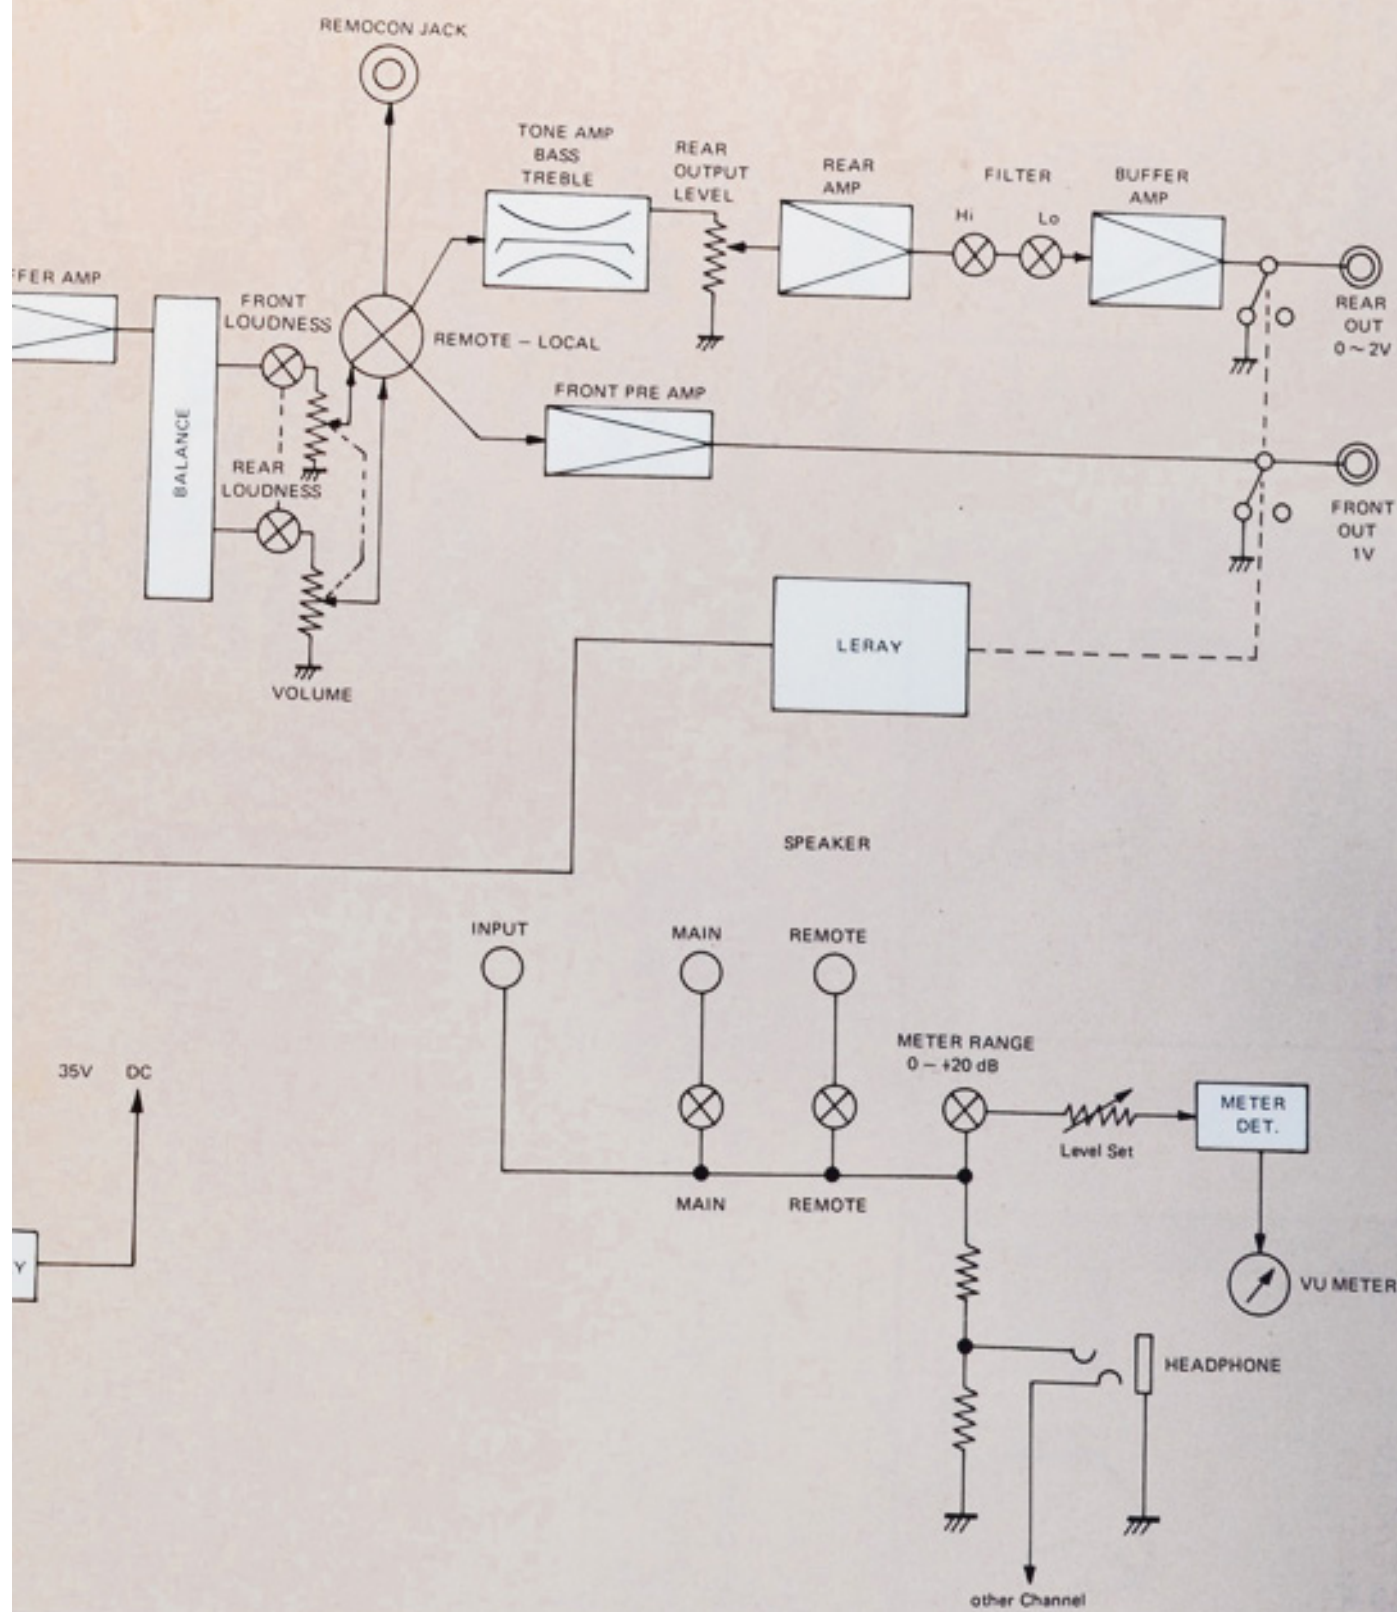

Figure 10. Functional Block Diagram
The block diagram of the Model 4000 is shown in Figure 10. To simplify the description, only the left-front (LF) and left-rear (LR) channels are shown.